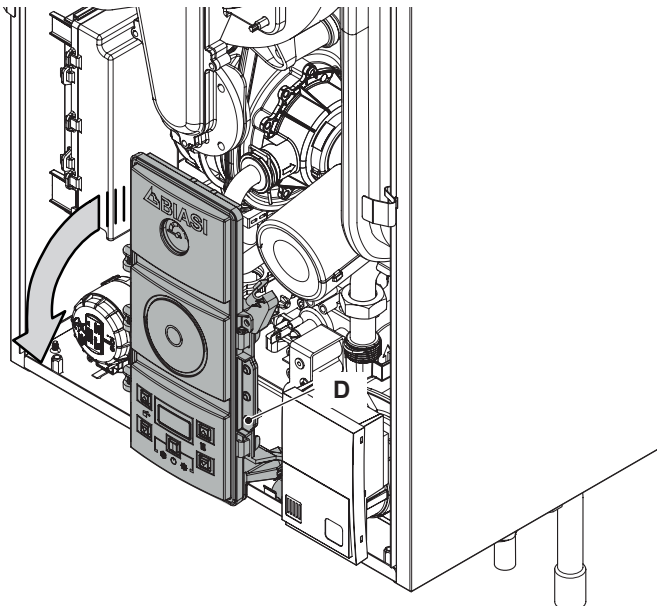

Figure 2.5
- 2 Unscrew the screw "D" (Figure 2.5).